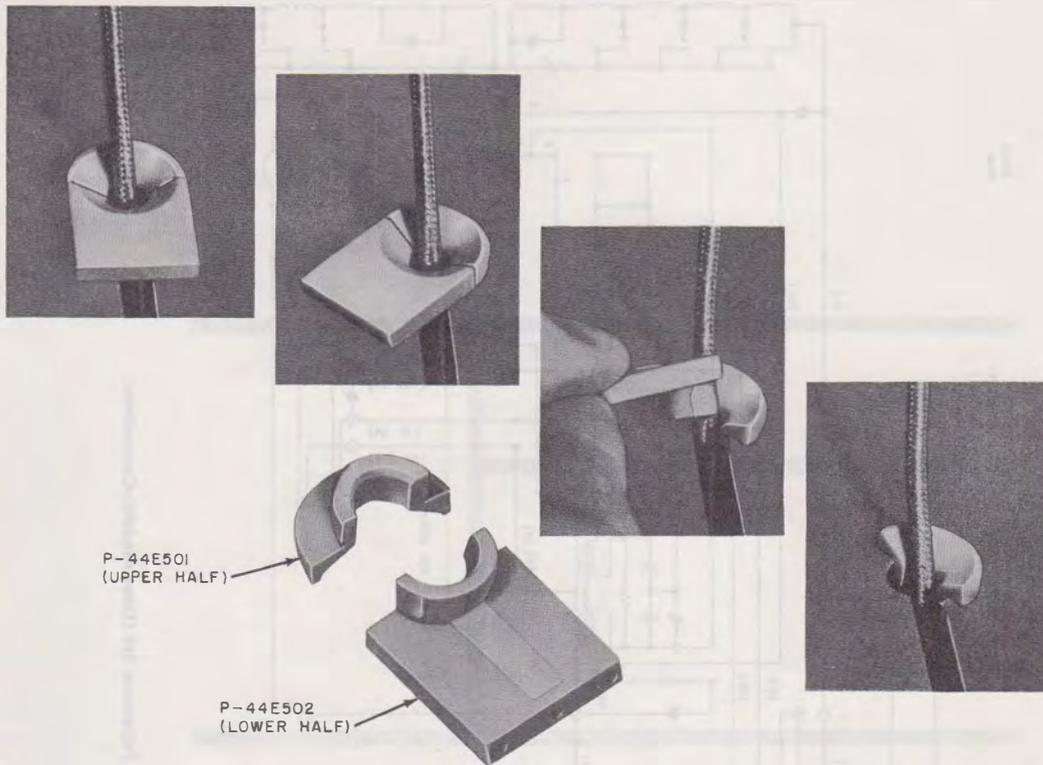

Fig. 3—Removal of Handset Cord Grommet
- (5) Remove grommet from mat as shown in Fig. 3.
- (6) Install grommet in new mat by reversing procedure used in removal.
- (7) Position mat on panel and secure using the mat retainer frame.